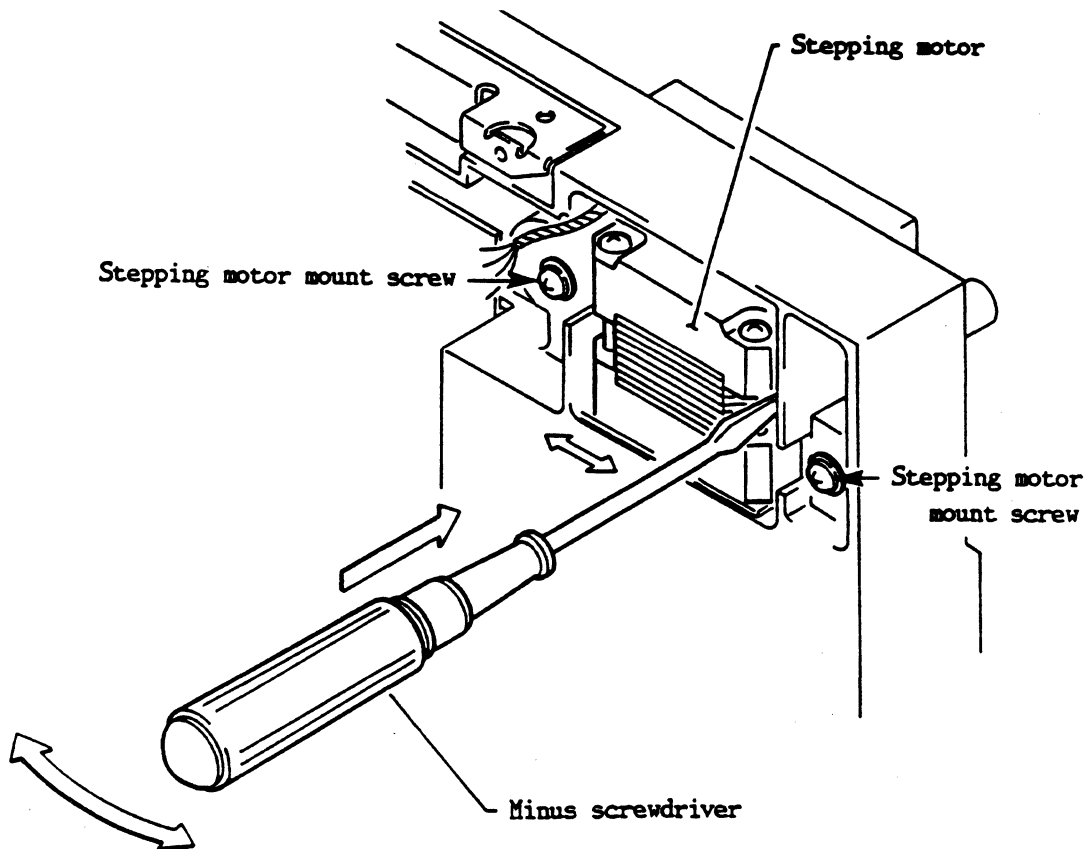

Figure 4-12 Track Alignment Adjustment
5. Adjust track alignment, using the following procedure, if the Alignment Error is greater than 20% as described above in step 4. Refer to Figure 4-12.